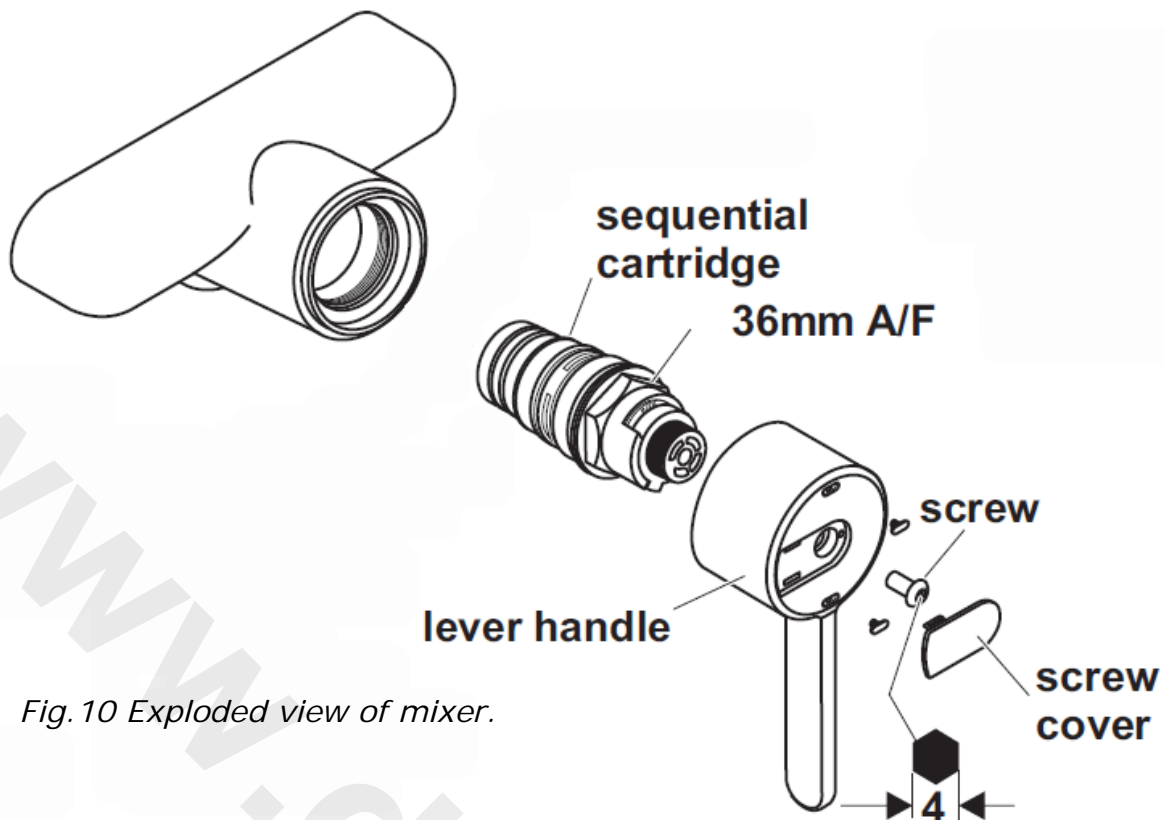

Fig. 10 Exploded view of mixer.
2. Remove the lever by prising out the cover button and unscrewing the retaining screw using a 4mm Allen key. *See fig.10*
Isolate the fitting by turning the isolating valves 90° *in either direction, see fig.10.*